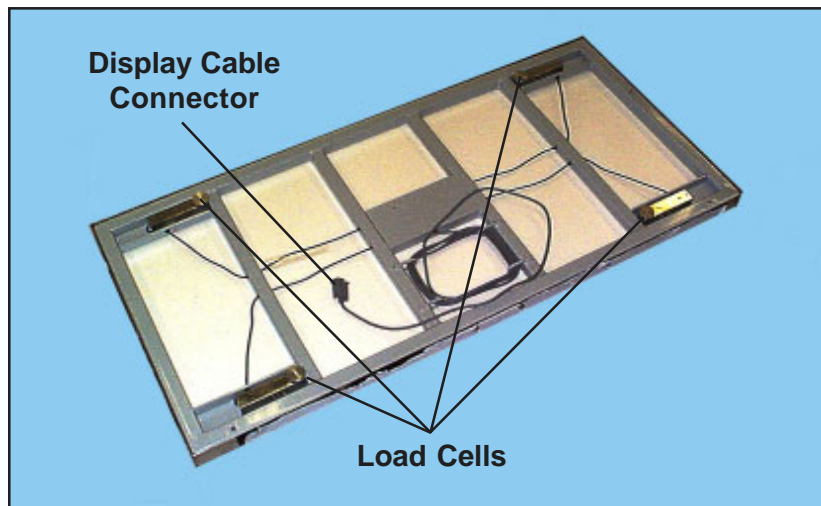

Figure 17. Underside of Electronic Scale Platform
4. Unwrap the display console cable from the hooks under the scale platform (Figure 17).
5. Place the electronic scale platform on the unit so that the load cells under the scale line up with the mounting holes on the unit frame (Figures 17, 18, and 19). Make sure that all four load cells rest on the frame arms and that the scale is stable and does not rock. **Note:** The display cable should exit to the rear to facilitate routing to the display console.